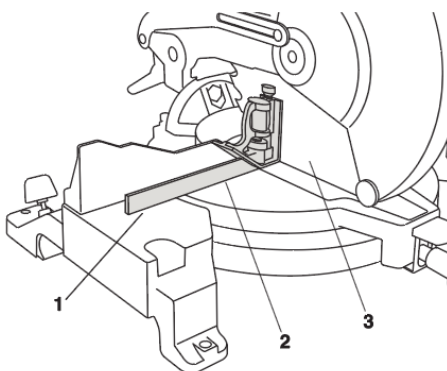

Fig.12
1. While lowering the blade, hold a combination square 1 against the base 2 and next to the blade 3 (Figure 12). Avoid touching the saw teeth with the square. The set in the blade's teeth will hold the square away from the blade. The blade should contact the full length of the square.